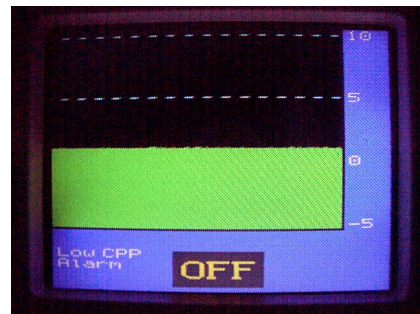

Figure 2-16 Low CPP Alarm, OFF Mode
- Pressing the DOWN button until the word “OFF” appears disables this alarm (Figure 2-16).